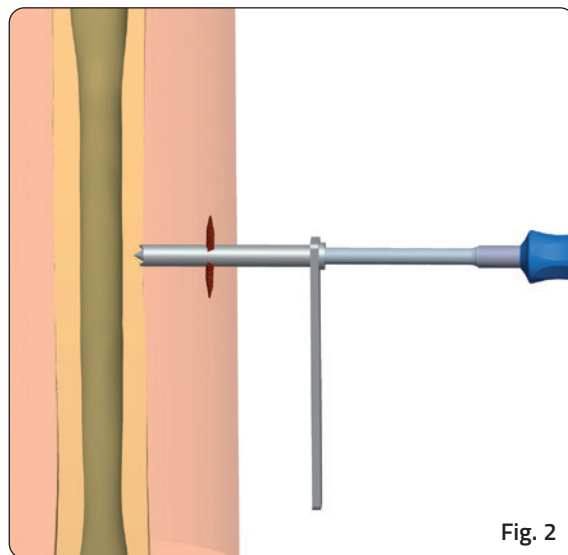

Fig. 2
2. Insert a screw guide perpendicular to the longitudinal axis of the bone. Use a trocar to locate the midline by palpation (**Fig. 2**).